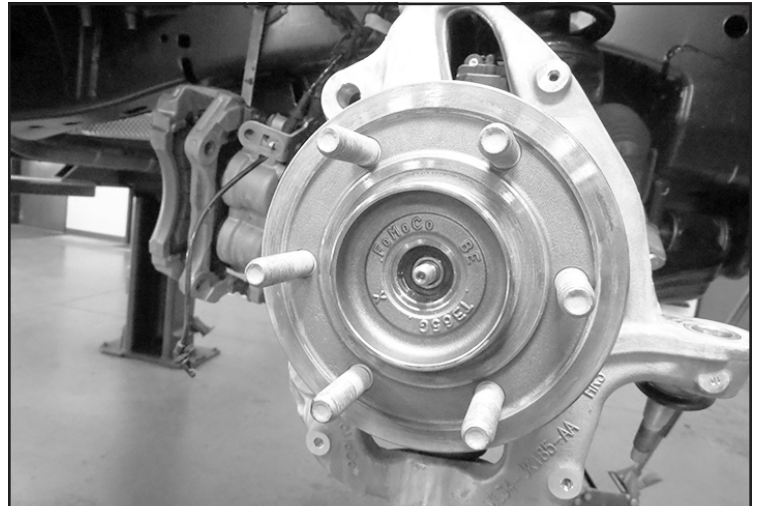

FIGURE 8 - STEP 7
7. Remove the axle shaft nut dust cover. Remove the nut and save. **SEE FIGURE 8**
8. Loosen the upper control arm ball joint nut. Using a hammer, carefully strike the knuckle until the ball joint is unseated. **SEE FIGURE 8**